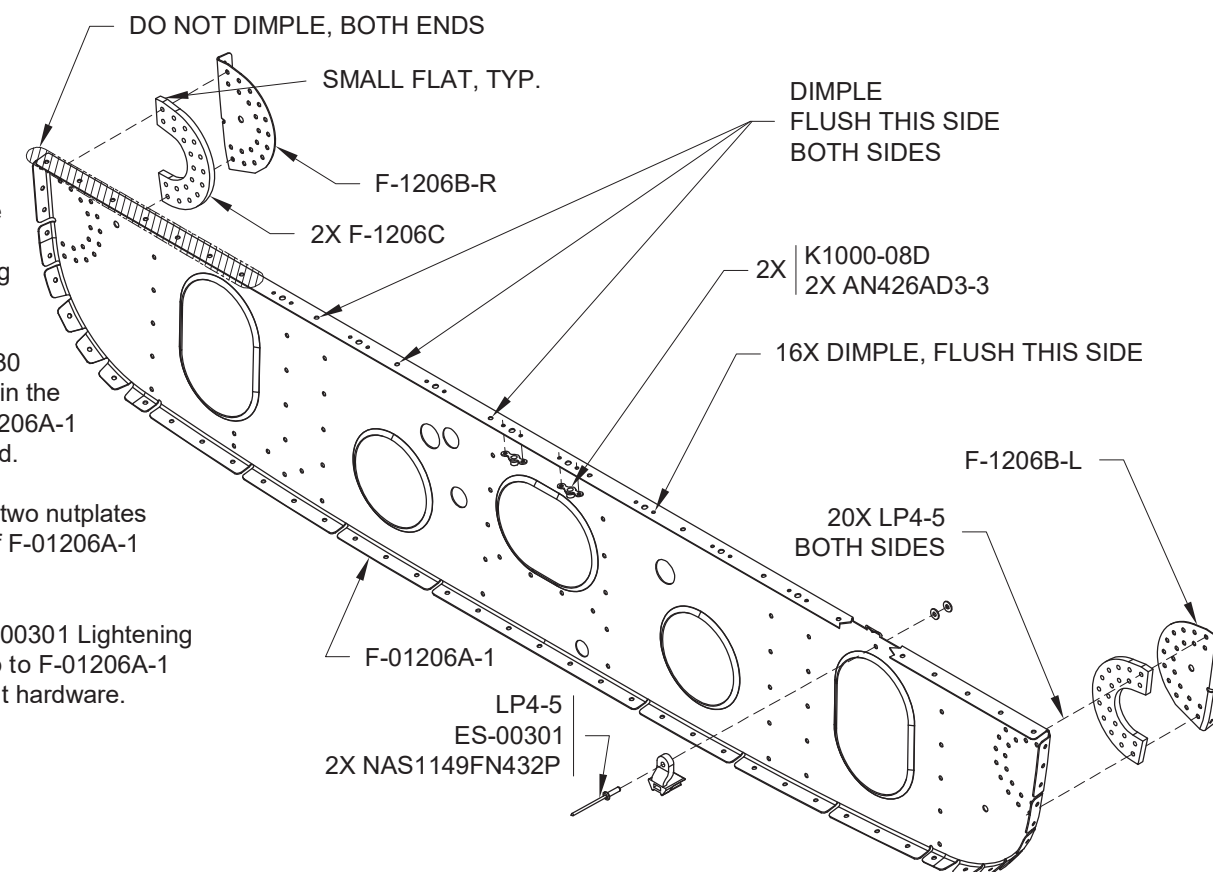

FIGURE 4: F-01206A-1 BULKHEAD ASSEMBLY
Step 8: File the rear stub spar rounded ends of both wings to closely fit the recessed machined curve of the F-1206C. See Figure 4. The small flat on F-1206C locates the top of the part.
Step 9: Rivet F-1206B-L & -R and F-1206C to F-01206A-1 using the rivets called out in Figure 4. Insert the rivets in all the holes before setting any of them.